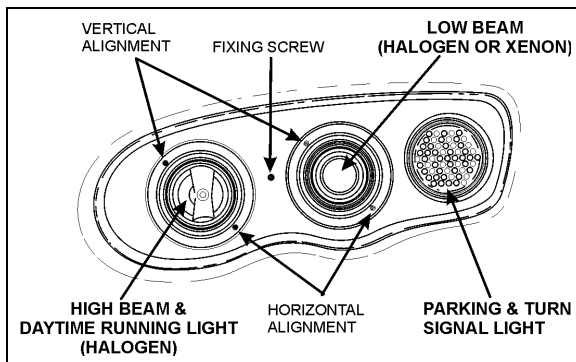

FIGURE 33: HEADLIGHT ASSEMBLY 06481
Headlight aim should be checked after installing a new bulb. Aiming can be performed without opening headlight assembly. Horizontal and vertical aiming of each module is provided by two adjusting screws that pivot the module in the housing for proper alignment (fig. 33). There is no adjustment for focus since the module is set for proper focus during manufacturing assembly.
2. Make sure that headlight assembly fixing screw is properly fastened (Fig. 33).
Note: If beam is offset, a LOW CANDLES message will appear. Using vertical and horizontal alignment screws, adjust beam as needed (fig. 33).